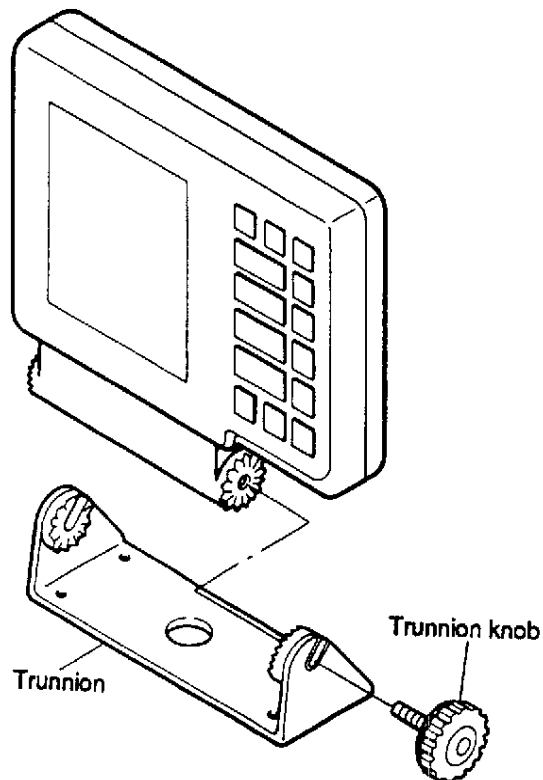

Figure 7 Mounting LCS-200
- 2) Place the display unit in its trunnion and secure it to the trunnion using two trunnion knobs as shown in Figure 7.